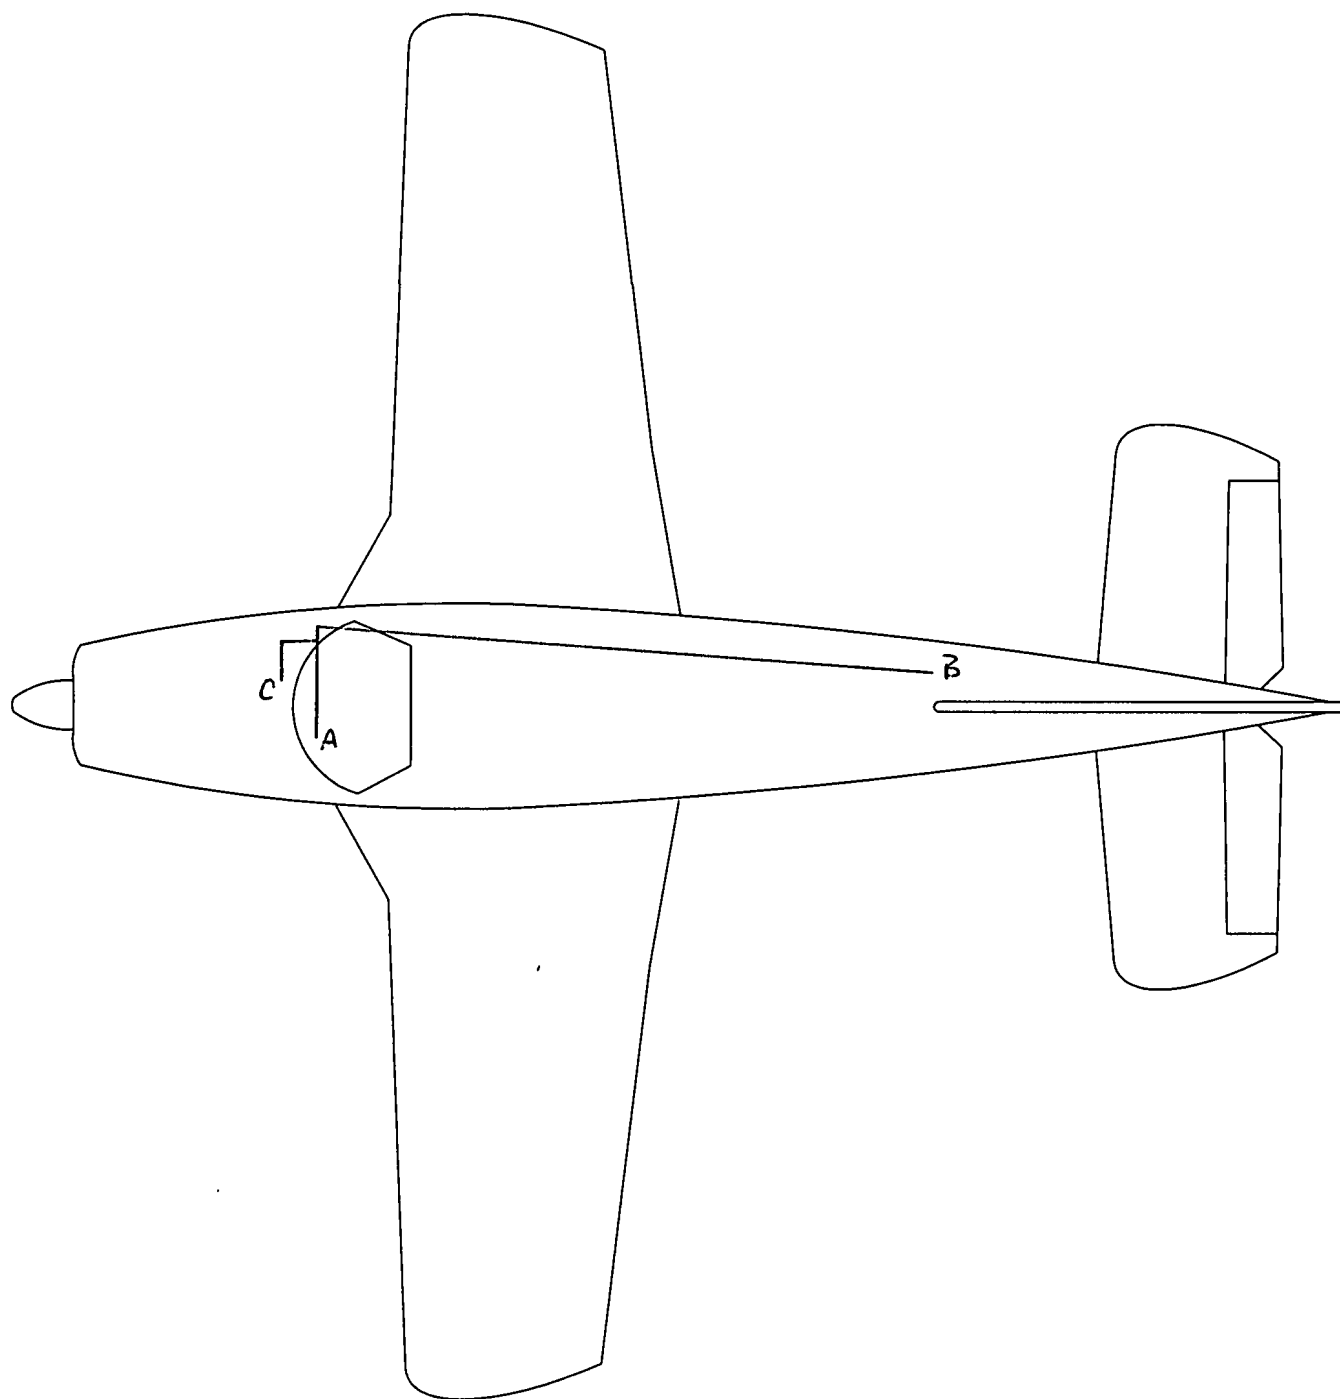

Figure D1 – EFD1000 Components and cable routing (top view)
1. Draw in the locations of the EFD1000 system, including the PFD, MFD(s), RSM, optional ACU, EBB58 and EA100, and autopilot locations (Figures D1 and D2).